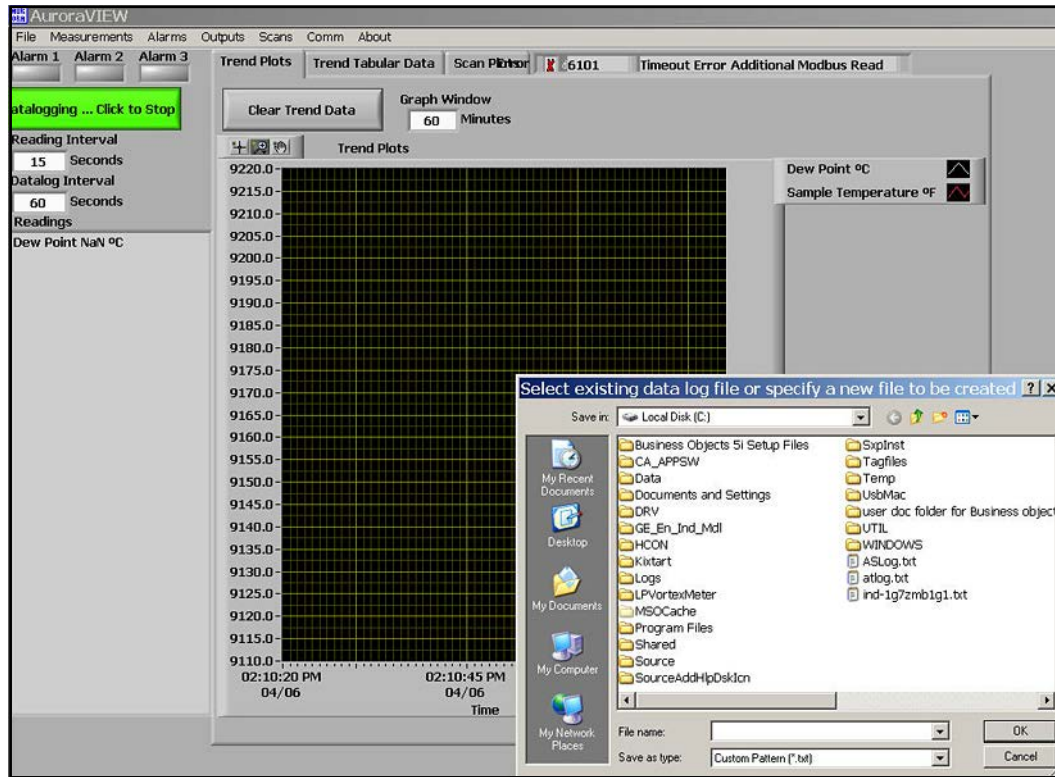

Figure 72: Datalogging with AuroraView
1. In the main view (see *Figure 72* below), click on the button **Click to Datalog**.